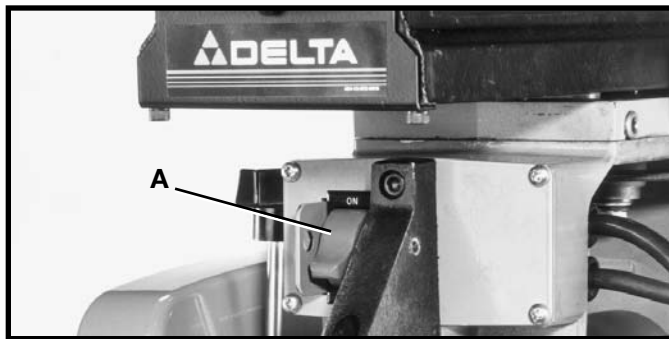
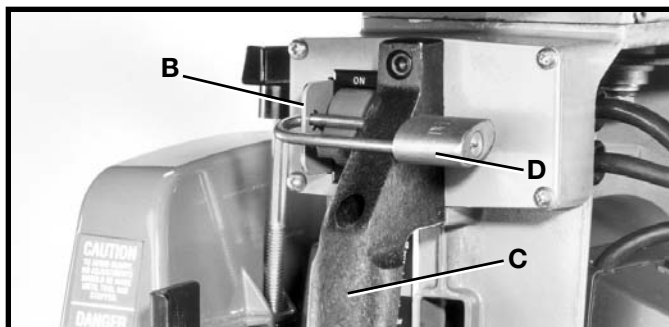

Fig. 56
Fig. 57
The on/off switch (A) Fig. 56, is located at the front of the cutting-head. To turn the saw "ON" move the switch (A) Fig. 56, to the up position. To turn the saw "OFF" move the switch (A) Fig. 56, to the down position. **IMPORTANT: WHEN THE TOOL IS NOT IN USE, THE SWITCH SHOULD BE LOCKED IN THE "OFF" POSITION TO PREVENT UNAUTHORIZED USE.** This can be done by inserting a padlock (D) Fig. 57, through the holes in switch plate (B) and handle (C) as shown. Padlock (D) Fig. 57, is available as an accessory.